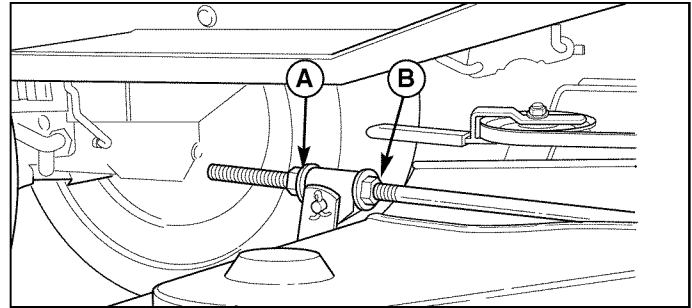

Figure 52. Front to Back Leveling
8. To raise front of mower deck, loosen front nut (B) and turn rear nut (A, Figure 52) against bracket. To lower front of mower deck, loosen rear nut (A) and the bracket will move backwards to lengthen rod.
10. Re-check the blade measurement then tighten the front nut (B) against the bracket to secure.